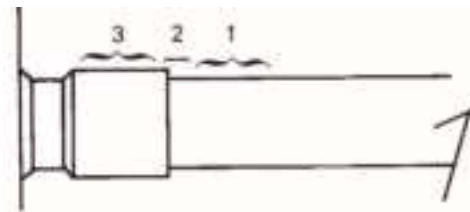

Figure 2 - Scroll Tube Brazing
- Heat tube uniformly in Area 1, moving slowly to Area 2. When joint reaches brazing temperature, apply brazing material. (See **Figure 2**)